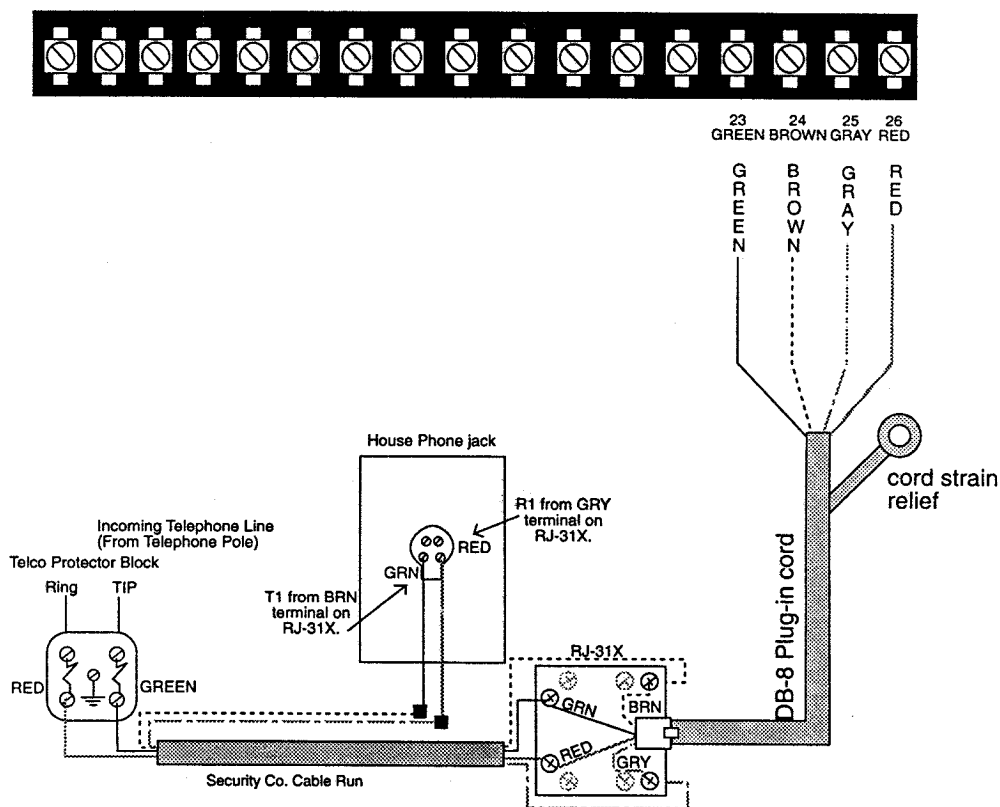

Figure 3.17. Connecting Phone Line to the RJ-31X/CA-38A Jack
RJ-31X/CA-38A Jack	This jack is the key to the phone line rewiring. You use this jack to rewire the phone line so that it can connect to the CPU via the DB-8 Cord (see Figure 3.17).
1. Mount the RJ-31X/CA-38A Jack close to the CPU (the DB-8 Cord connecting RJ-31X/CA-38A Jack and CPU is about 8 feet long) (see Figure 3.17).